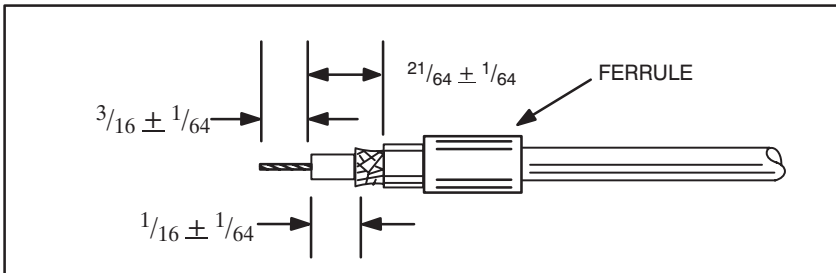

Figure 3.9 - RG-59/U (Belden 9259) Cable Stripping Dimensions
- Step 2. Strip the coaxial cable using the dimensions shown in figure 3.9. Be sure the shield braid wire is cut to the correct length and cannot touch the center conductor.